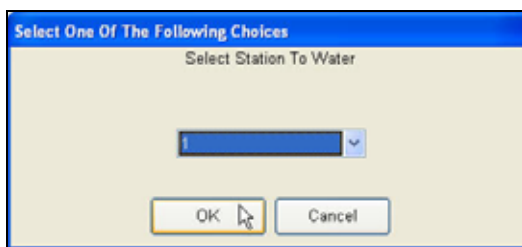

Figure 7.1.3
- Select a Station To Water. Click **OK** (Figure 7.1.3).